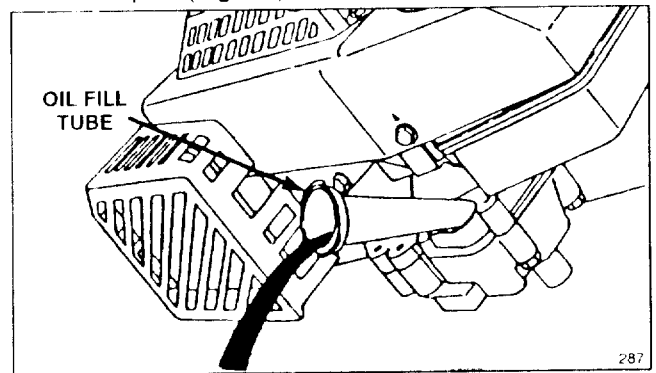

Figure 20
- Tip mower on its left side, allowing oil to drain into drain pan (Fig. 20).